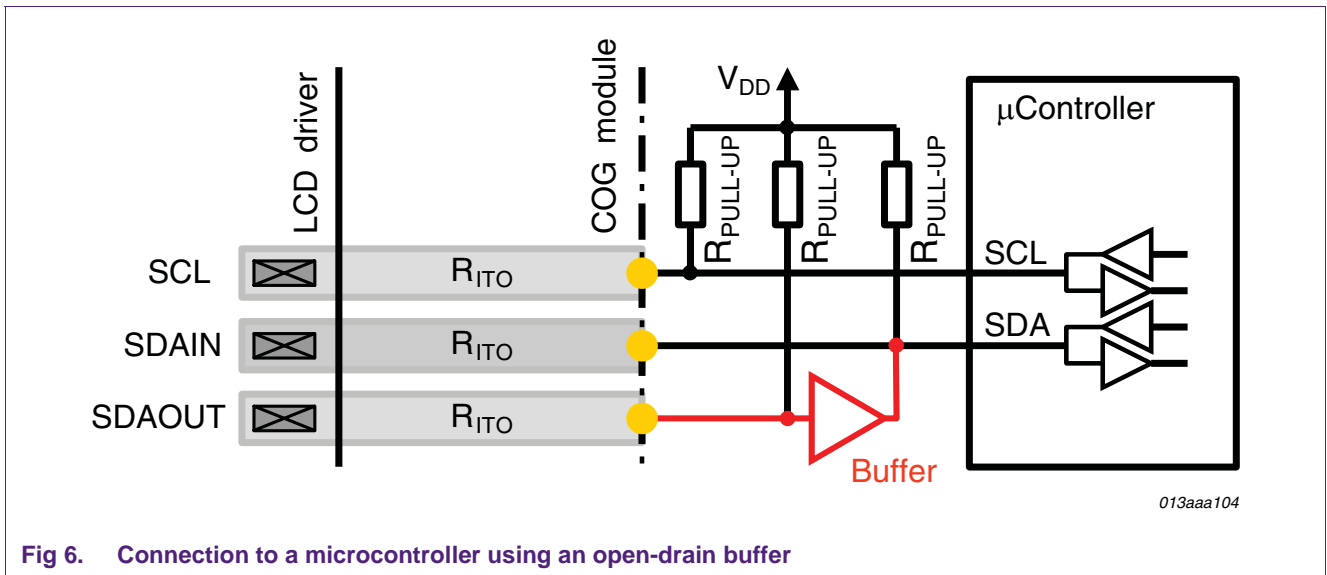

Fig 6. Connection to a microcontroller using an open-drain buffer
- The I2C protocol is fully implemented in the system but the value of the pull-up resistor required to satisfy the *maximum logic low level* requirement  $V_{L(max)}$  is too high to satisfy simultaneously the *maximum rise time* requirement,  $t_R$ . In this case the full SDA signal may be reconstituted using an external open-drain buffer (see Figure 6). The buffer isolates the SDAOUT pin from the capacitance of the I2C-bus and makes the rise time requirement easier to meet.